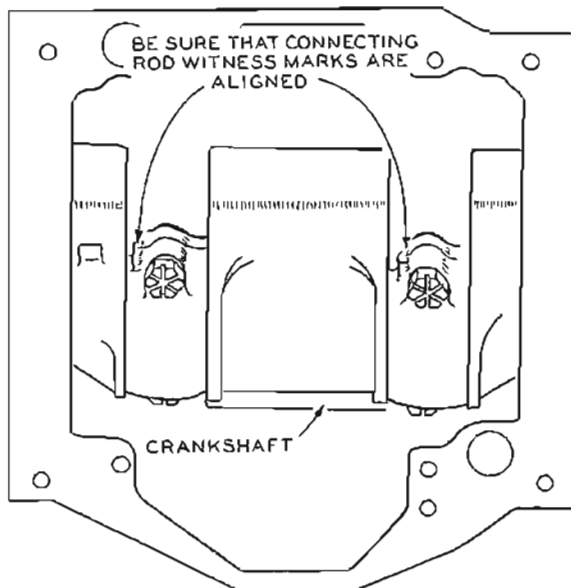

Figure A-36. Connecting Rod Witness Mark
(5) Position each connecting rod on the crankshaft, oil the journal, and install its rod cap with bearing half. When installing the rod cap, position so the raised witness mark on the forging matches the mark on the connecting rod (fig. A-36).